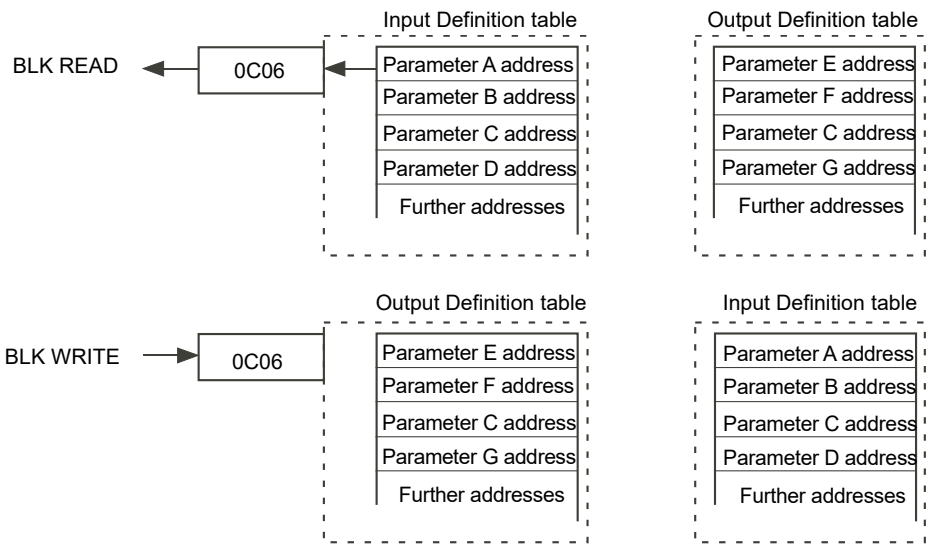

Figure 128 Block Read and Block Write (Note 3)
1. Double click the next available position in the input or output data table and select the variable to assign to it. A pop-up (Figure 128) provides a browser from which a list of parameters can be opened.
As shown in Figure 128, 'Block Read' and 'Block Write' requests both access the same memory location (0C06), which 'points' to the relevant input definition table or output definition table according to whether the instruction is a read or a write. If a value is written to a parameter at a particular location in the output definition table, and the value of the parameter in the same location in the input definition table is then read, the read value is normally different from the write value because the parameter at a location in the input table is not usually the same as the parameter at that location in the output table (unless the same parameter is placed at the same location in both tables).